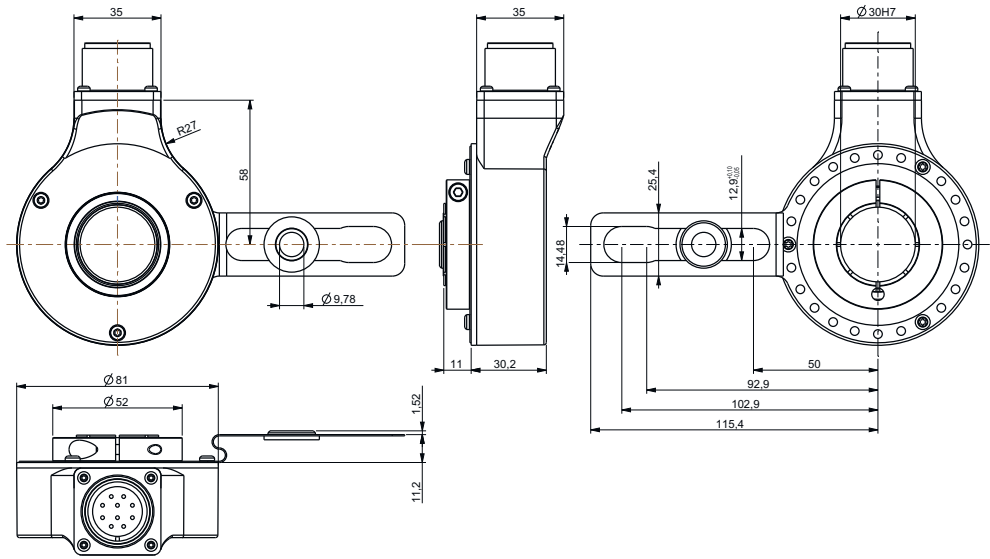
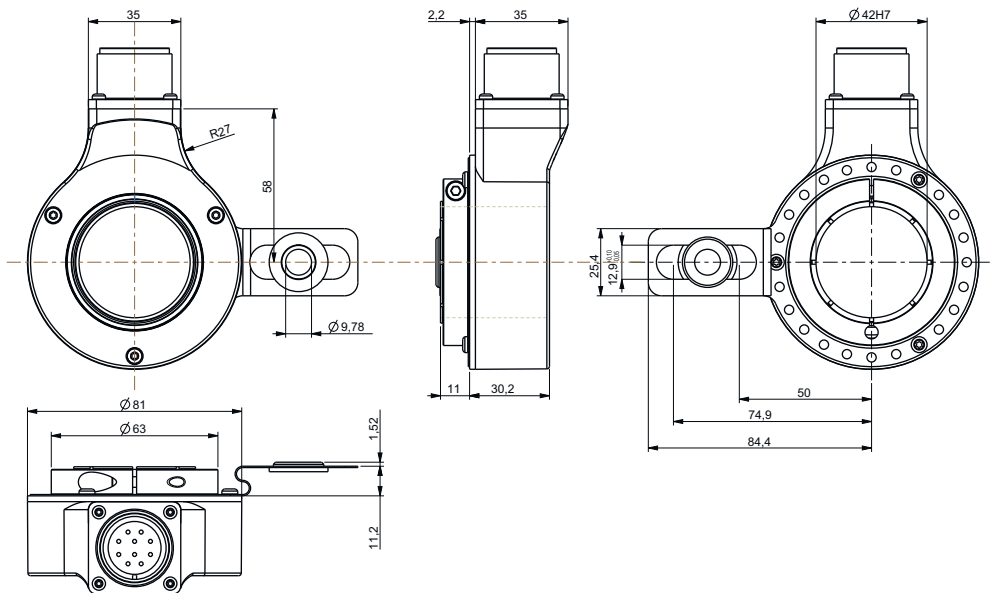

Figure 3: 8.5" C-Face stator coupling option A
Figure 4: 4.5" C-Face stator coupling option B
- Lock the shaft the encoder is to be mounted on (1) to prevent rotation.
- Loosen the M4 x 16 UNI5931 screw (2) on the clamping ring (3).
- If required, insert the collet (4) into the encoder shaft (5), check the diameter of the drive shaft (1).
- Check the shaft length on which the encoder is to be mounted (1).
- Slide the encoder (6) onto the drive shaft (1).
- Ensure that the encoder shaft (5) or the collet (4) does not touch the customer application.
- If required, mount stator coupling accessories (see figure 3 and figure 4) to the encoder housing using the M3 x 5 DIN7500 screws, tighten M3 screws.